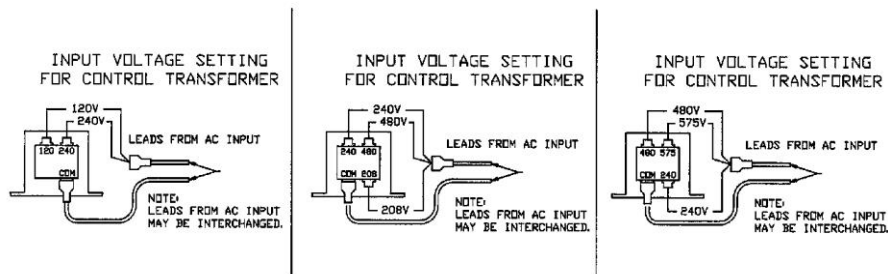

Fig. 9.2A, B, C A.C. Voltage Selection on Primary Side of Control Transformer
6. Locate the Control transformer. Change the primary input connection in accordance with the voltage printed on the transformer. (Refer to Fig. 9.2A, B, or C.)